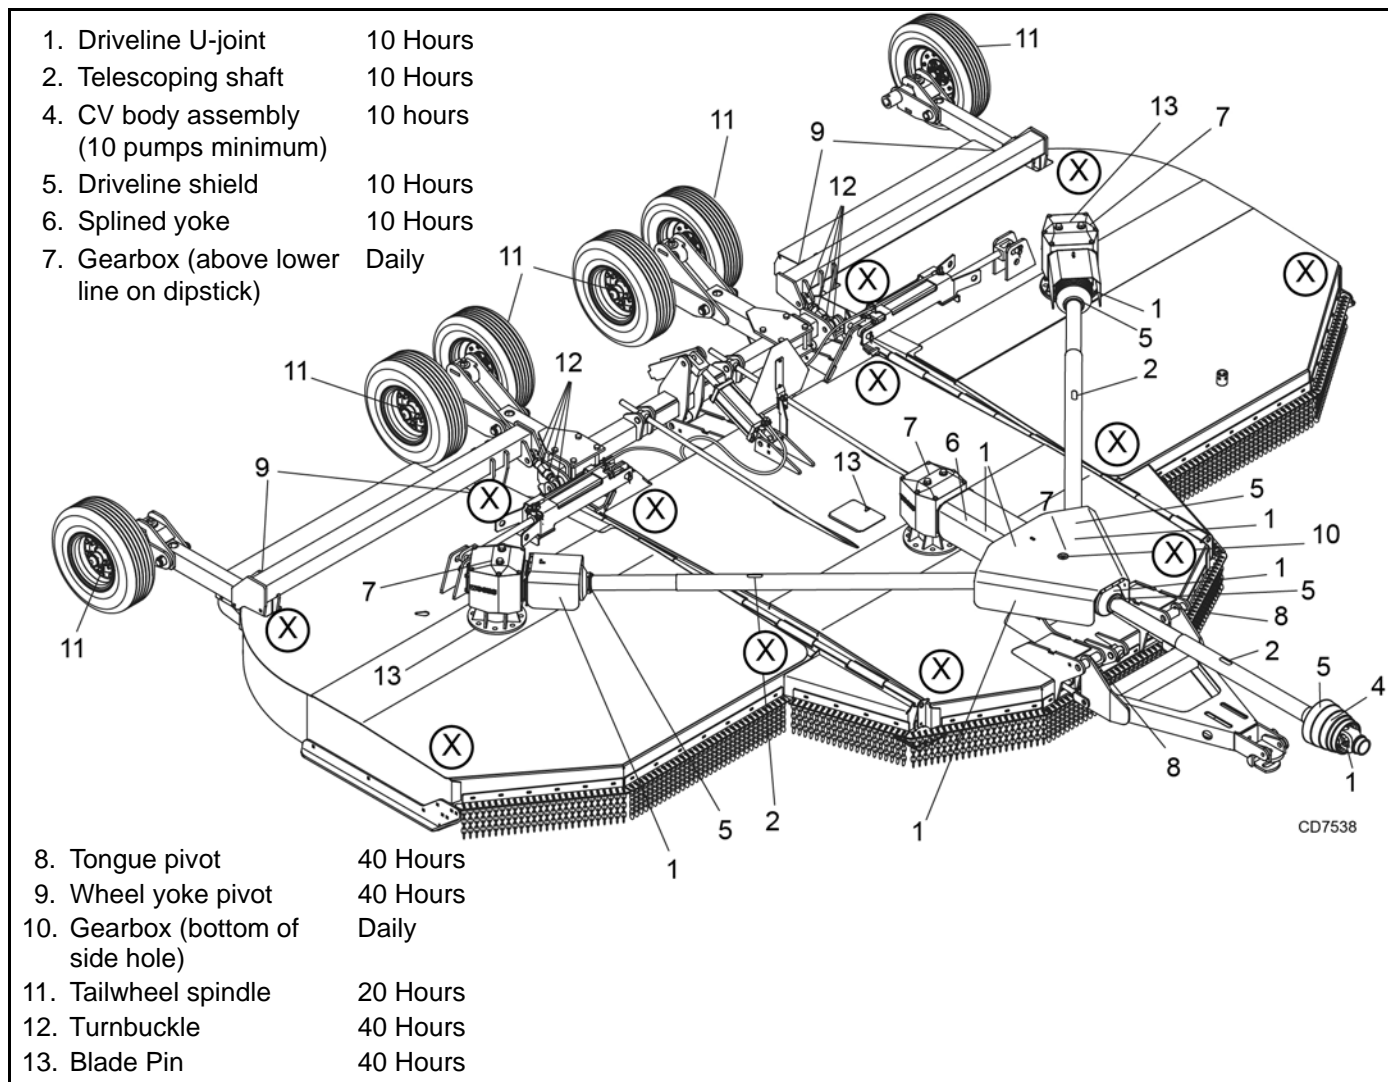

Figure 6. Jackstand Placement and Lubrication Points
1. Jackstands with a load rating of 1000 lbs. or more are the only approved blocking device for this cutter. Install jackstands (shown by Xs in Figure 6) under the cutter before working underneath unit.
See Figure 6 for lubrication points and frequency or lubrication based on normal operating conditions. Severe or unusual conditions may require more frequent lubrication.
2. Raise cutter and block securely (see Figure 6).
3. Align crossbar (8) with blade access hole in the cutter frame. Remove cap screw (50), blade pin lock clip (12, keyhole plate (11), and shims (9 & 10). Carefully drive blade pin (7) out of crossbar.